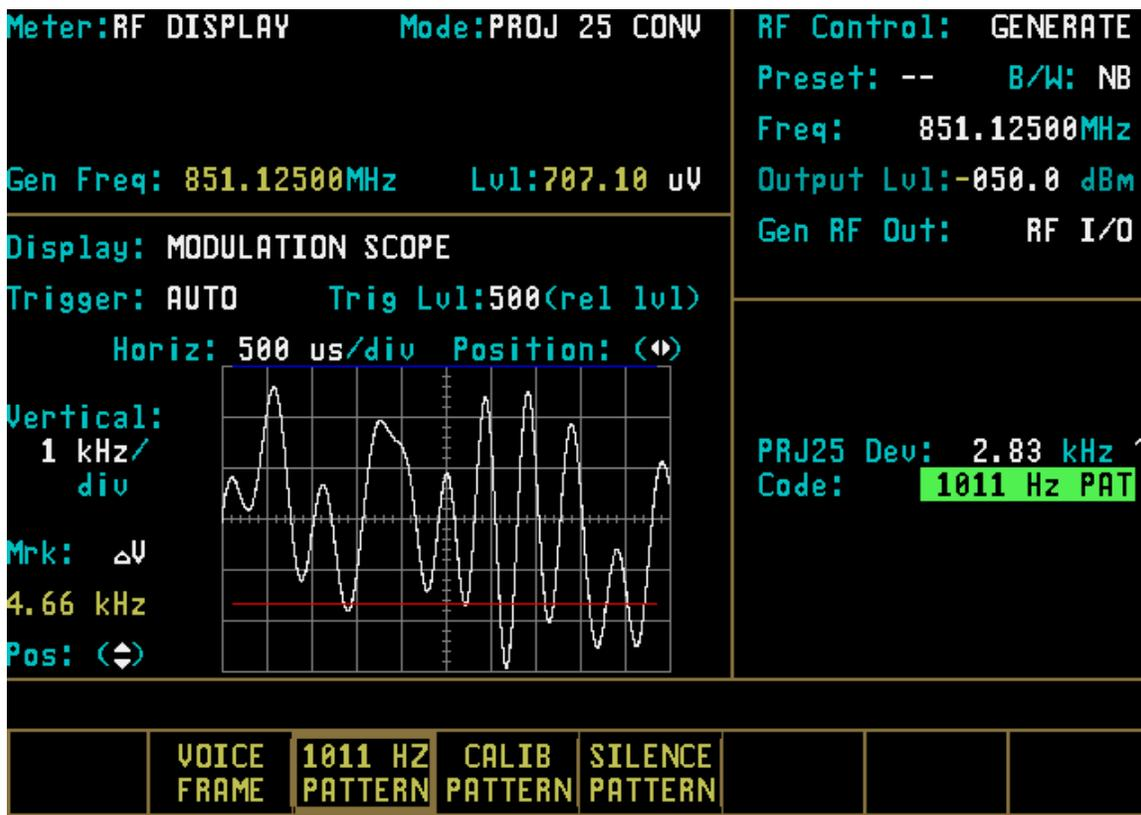

Figure 22-1. Radio (BER Test Mode) Audio Zone
2. Place the cursor on the “Code:” field in the Audio Zone (Figure 22-1) and select the **1011 Hz PAT** softkey. This will generate a 1011 Hz tone test pattern. If this pattern is received correctly by the unit under test, the BER measured by the unit under test should be zero.